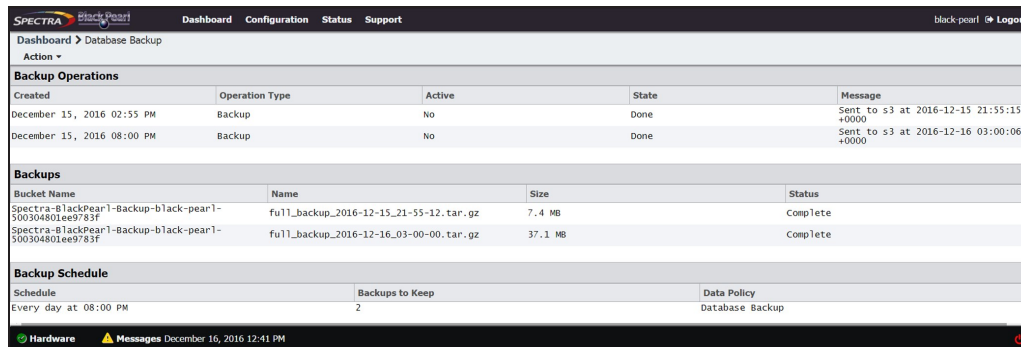

Figure 195 The Database Backup screen.
1. From the menu bar, select **Configuration > Database Backup**. The Database Backup screen displays (see Figure 195 on page 271).
- From the menu bar, select **Configuration > Database Backup**. The Database Backup screen displays (see Figure 195 on page 271).